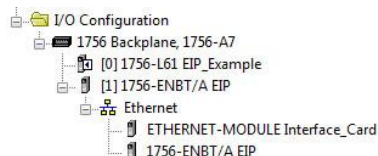

Figure 27: I/O Configuration Tree
- 21) After adding the I/O Module to the configuration, the full I/O Configuration tree should appear similar to Figure 27.